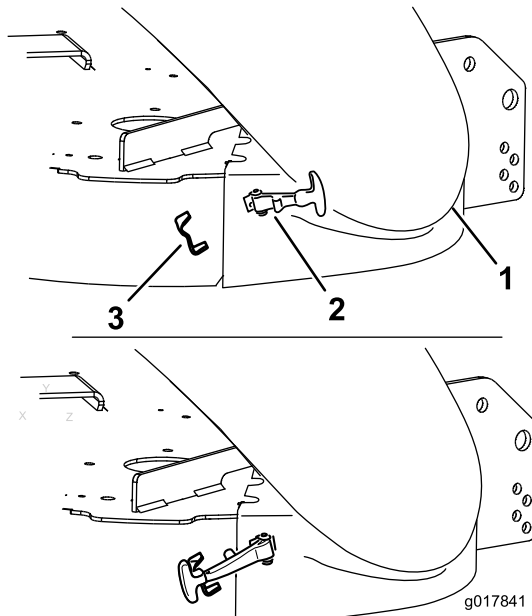

Figure 22
5. Hook the flexible latch on the chute to the retaining clasp welded on the mower deck to the rear of the opening (Figure 22).